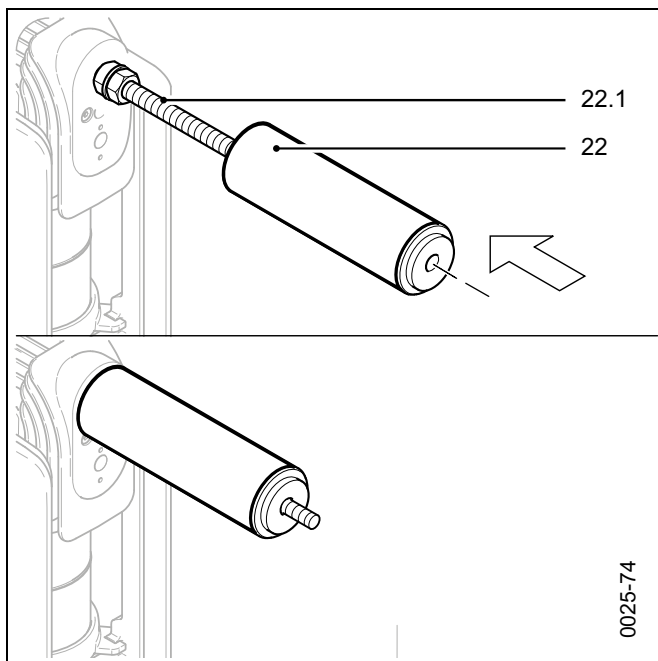

Fig. 89 Attaching contact arms – example with Ø 60 mm
Contact systems without a contact arm adapter are only mountable on contact arms with Ø 60 mm. These contact arms already have an integrated contact arm adapter (see Fig. 89).
- Place the contact arms (22) on the threaded rod (22.1) (see Fig. 89).